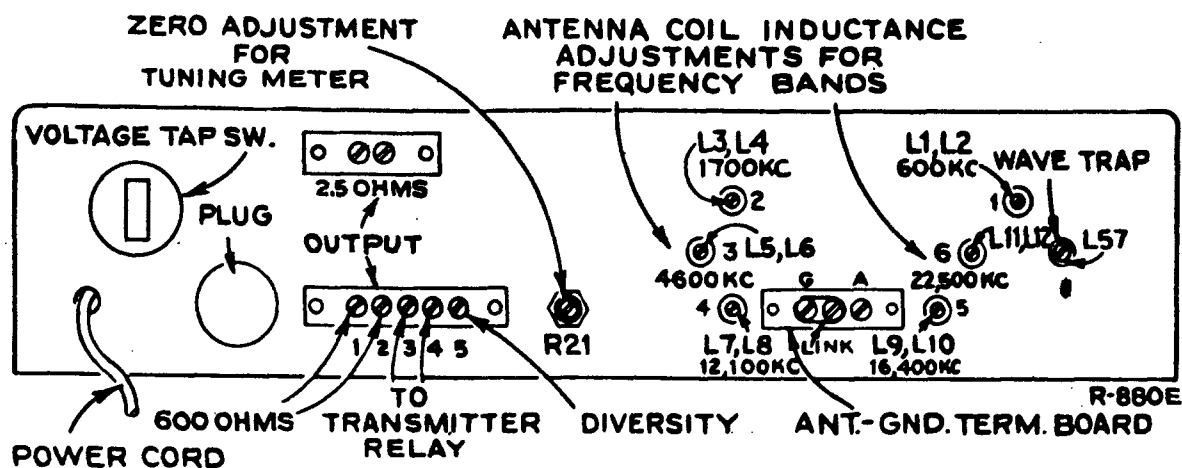

Figure 3—Diagram of Rear of Chassis
The antenna terminal board is provided with three terminals (see Figures 3 and 6), two of which may be joined together with a link. When a single wire antenna is used, the link should be closed and the antenna connected to "A." If a ground is used, it should be connected to "G." If a transmission line or balanced input is used, the link should be opened and the line connected to terminal "A" and the center terminal.
Power Pack — The power pack mounted on the receiver chassis consists of a power transformer, rectifier tube RCA-5Y3GT, and filter. A tap switch is provided on the rear apron for changing the power transformer voltage tap. (See Figures 3 and 6.) The voltage for which the switch is set may be read directly on the switch. The instrument may also be operated from 6V. "A" and 250 to 300 V. "B" batteries, or Vibrator Power Supply Unit MI-8319.
Speaker—Terminals for connection of a loud-speaker are indicated in Figures 3 and 6. The output transformer is designed to match a speaker having 2.25 ohms impedance.
2. Transmit position which gives energized tube filaments, open plate circuits, and shorted terminals for transmitter relay on the speaker terminal board on the back of the chassis. Connect relay to these two terminals for transmitter operation. See Figure 3.
Diversity Reception — Connect together the terminals marked "diversity," Figure 3, on two or three of these receivers, and equip each receiver with a separate antenna. The "diversity" terminal is connected inside the receiver to the AVC circuits. Tune as explained.
detector. It controls the first and second R-F and first and second I-F tubes. The tuning meter is connected in the cathode circuit of the 1st I-F tube and thus records changes in cathode current caused by changes of AVC voltage applied to the grid. The tuning meter should normally give a low scale reading when no signal is being received. To adjust this meter, tune the receiver to a point free of signals, turn the sensitivity control to maximum, switch in AVC, switch crystal "Out," have antenna trimmer turned off resonance, and then adjust the potentiometer R21 at the back of the receiver, as shown in Figure 3, until the meter pointer just coincides with the mark at the low end of the scale. The meter will usually rise slightly when the antenna trimmer is tuned to resonance.